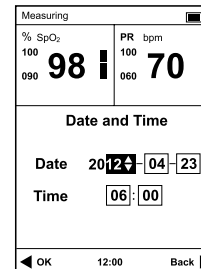

Fig.4-2
- 2) Press the Navigation button to select "Date and Time" item, and then press the OK button to enter the time setup screen, refer to Fig.4-2.